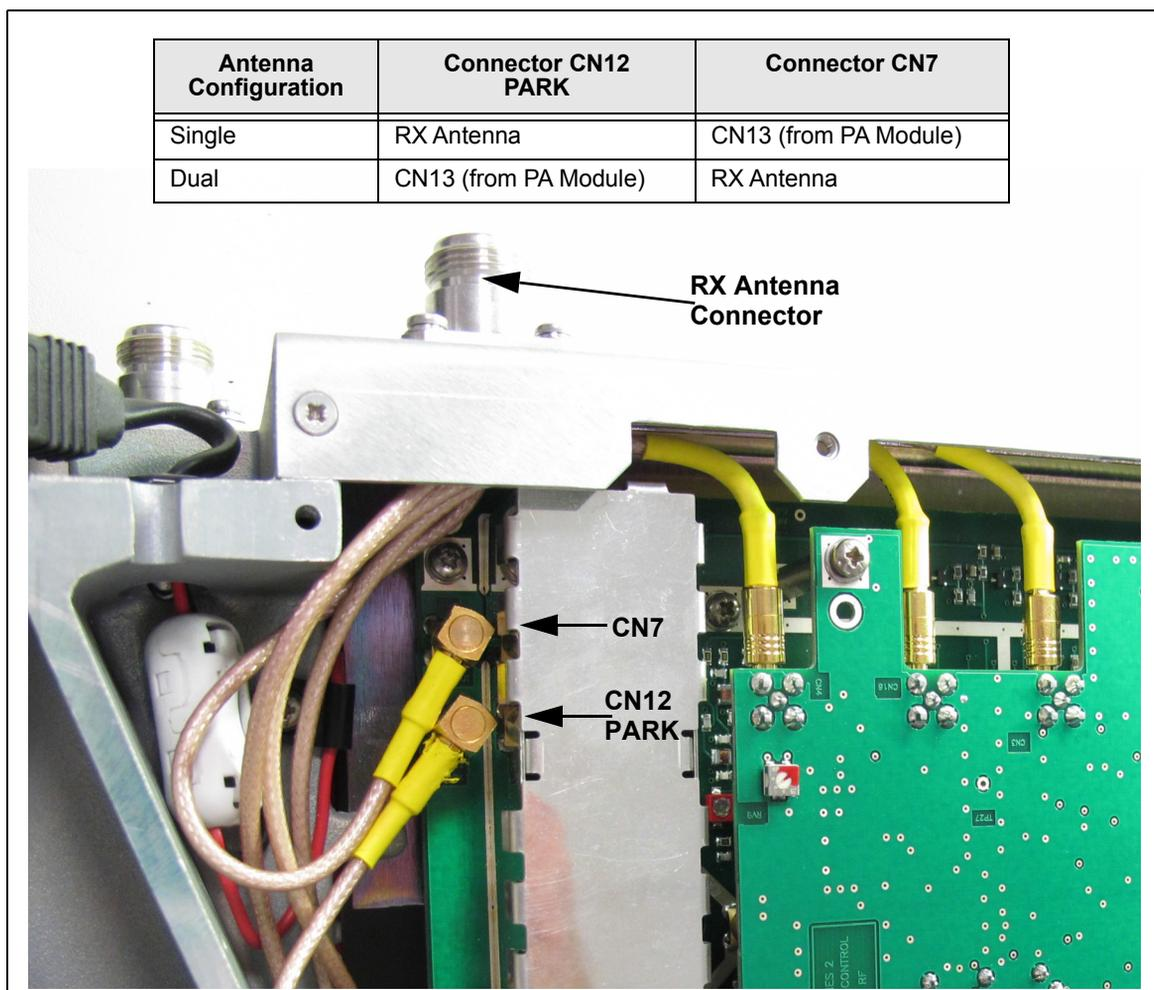

Fig 5-2 Antenna Configuration
- (1) Remove the transceiver's bottom cover as described on page 5-9.
- (2) Locate the module and disconnect the following connectors (before removing CN7 and CN12, note the antenna configuration):
- CN7 SMB connector from the RX antenna connection or CN13 on the PA module (illustrated in Fig 5-2)
- CN12 SMB connector (connects to CN13 on the PA module) or RX antenna connection (illustrated in Fig 5-2).
- (3) Remove the seven M3 x 8 mm captive washer screws that secure the module to the transceiver's mainframe and remove the module from the chassis.
- (1) Place the module in position. Ensure no wires are trapped by the module.
- (2) Fit the seven M3 x 8 mm captive washer screws, previously removed, that secure the module to the transceiver's mainframe.
- (3) Refit the following connectors to the module:
- CN7 SMB connector to the RX antenna connection or to the connector from CN13 on the PA module (illustrated in Fig 5-2)
- CN12 SMB connector to CN13 on the PA module or the RX antenna connection (illustrated in Fig 5-2)
- (4) Re-establish the ac and/or dc supplies.
- (5) Switch power on at the radio using the rear panel Supply switch.
- (6) Ensure the front panel Ready indicator is lit and the Alarm indicator is unlit.